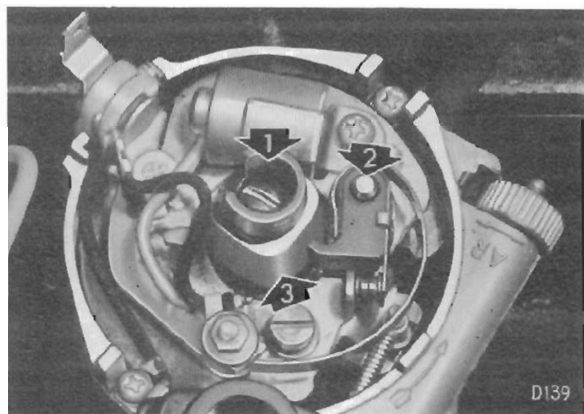

Fig. 10. Distributor lubrication
**Element Removal (Fig. 10)**
**Distributor (Fig. 10)**